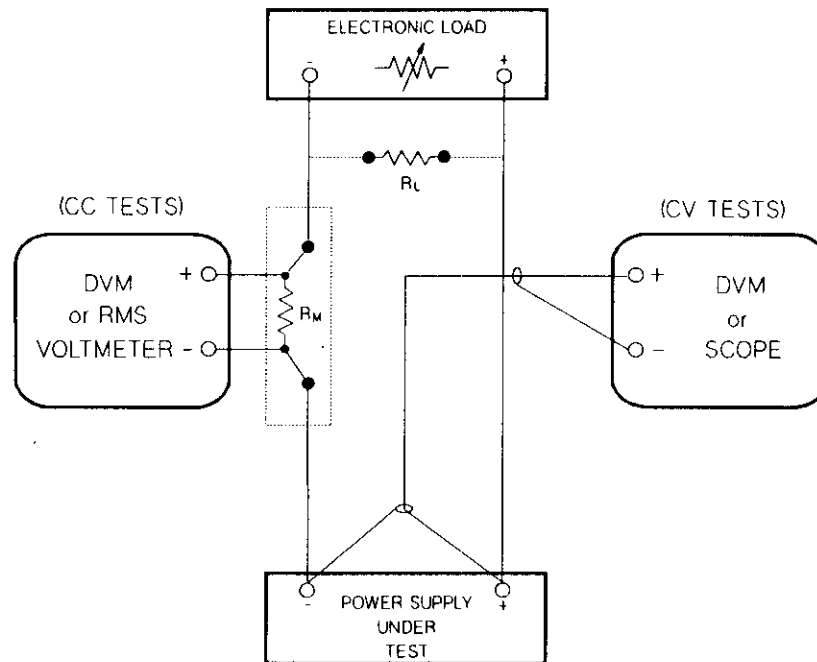

Figure 3-1. Performance Verification Test Setup
To eliminate output current measurement error caused by the voltage drops in the leads and connections, connect the current monitoring resistor between the (-) output terminal and the load as a four-terminal device. Connect the current-monitoring leads inside the load-lead connections directly at the monitoring points on the resistor element (see  $R_M$  in Figure 3-1).
- 1 Turn off the power supply and connect a digital voltmeter between the (+) and (-) terminals of the output to be tested as shown in Figure 3-1.
- 1 Turn off the power supply and connect a digital voltmeter between the (+) and (-) terminals of the output as shown in Figure 3-1.
- 4 Operate the electronic load in open mode (input off). Record the output voltage reading on the digital voltmeter again. The difference between the digital voltmeter readings in steps (3) and (4) is the CV load regulation. The difference of the readings should be within the limit of 5 mV.
- 6** Adjust the autotransformer to high line voltage (127 Vac for nominal 115 Vac, 110 Vac for nominal 100 Vac, or 253 Vac for nominal 230 Vac). Record the voltage reading on the digital voltmeter. The difference between the digital voltmeter readings in steps (5) and (6) is the CV line regulation. The difference of the readings should be within the limit of 5 mV.
- 1** Turn off the power supply and connect the output to be tested as shown in Figure 3-1 to an oscilloscope (ac coupled) between (+) and (-) terminals. Set the oscilloscope to AC mode and bandwidth limit to 20 MHz. Connect a resistive load (7.5 $\Omega$ ) as shown in Figure 3-1.
- 1 Turn off the power supply and connect the output to be tested as shown in Figure 3-1 with an oscilloscope. Operate the electronic load in constant current mode.